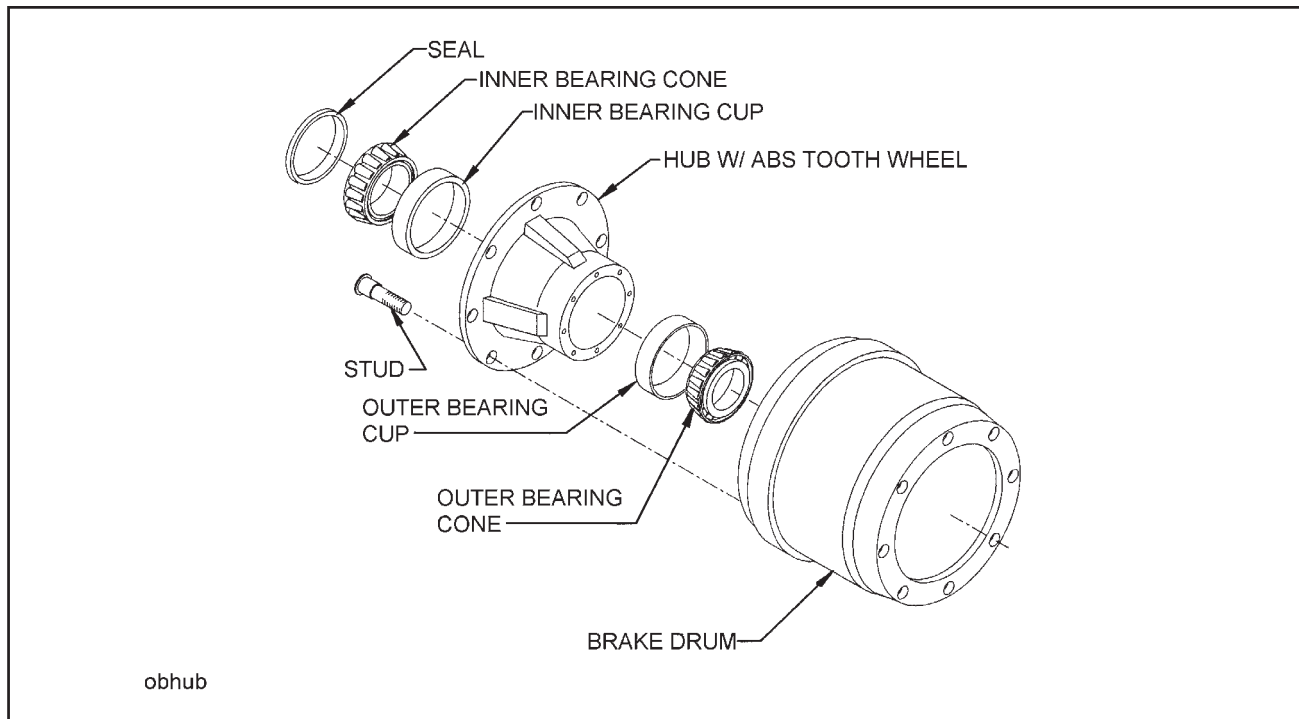

Figure 4-17 Outboard Mount Hub and Drum
(See Figure 4-17):
- a. Remove the brake drum (See Figure 4-17). It may be necessary to release the slack adjuster.
- i. Place the drum over the hub and brake shoes being careful not to damage the threads on the studs (See Figure 4-17). Make sure the drum seats flat against the hub flange and mates properly with the hub pilot. There should be no interference between the brake drum pilot chamfer and the corner radius on the hub. If interference exists, the hub will not be able to function properly.